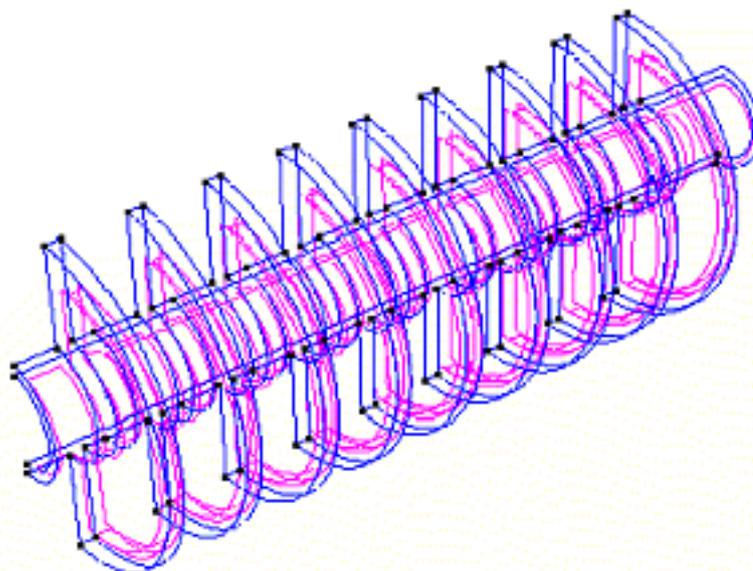

Figure 14. Result of the first step in the rotation (180 degrees)
- 3 . Click **Select**. For an improved view when selecting the profile, click **Off** the "aux" layer. Press **ESC** when the selection is finished. The result should be that illustrated in Figure 14.